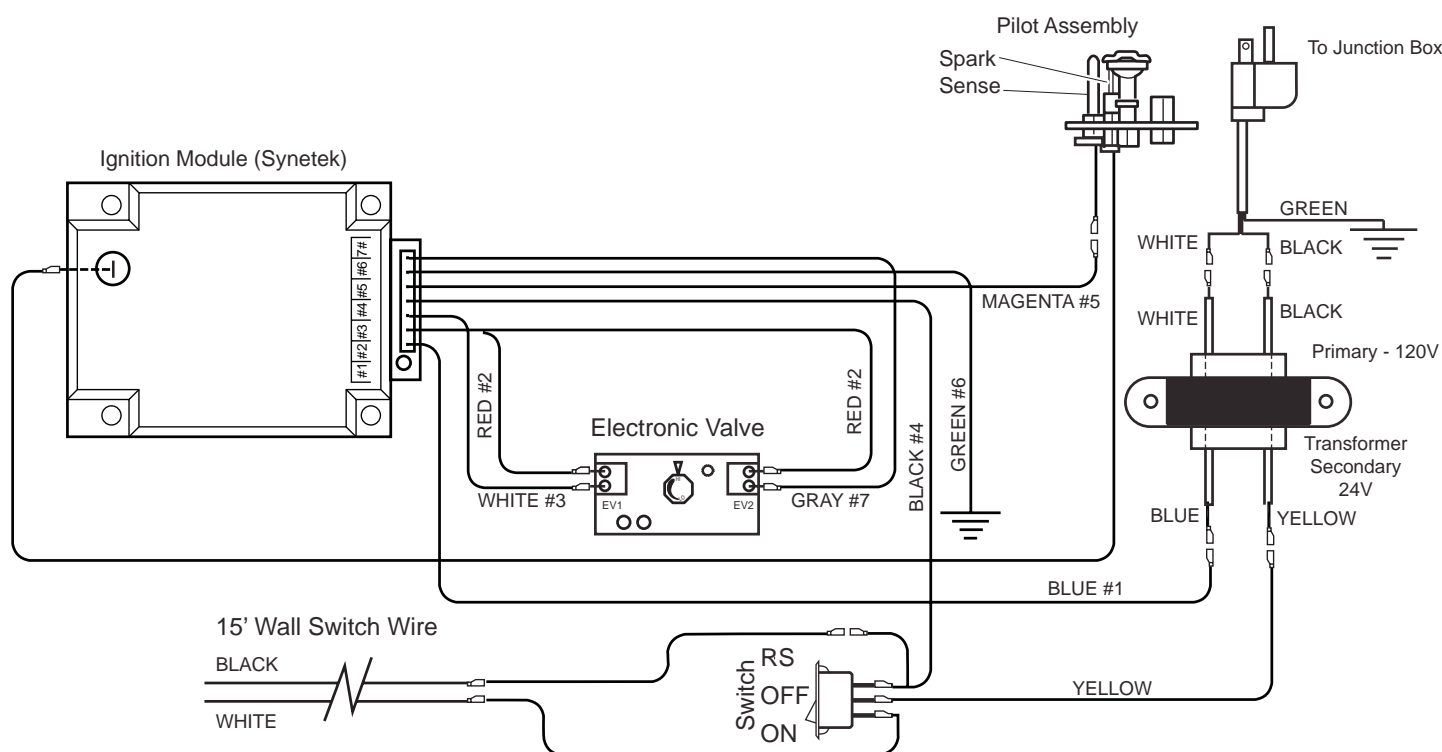

Figure 41 - Electronic Ignition System Wiring Diagram
2. Connect the wire terminal from the remote receiver. This replaces the 15' wall switch connection to the switch. See *Figure 41*.